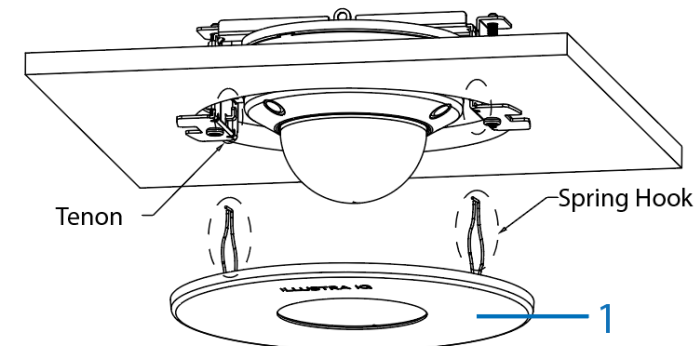

Figure 5
15. Hold the ceiling plate (1) (Figure 5) up to the dome cover and insert the two spring hooks (2) (Figure 5) up into the two tenons.